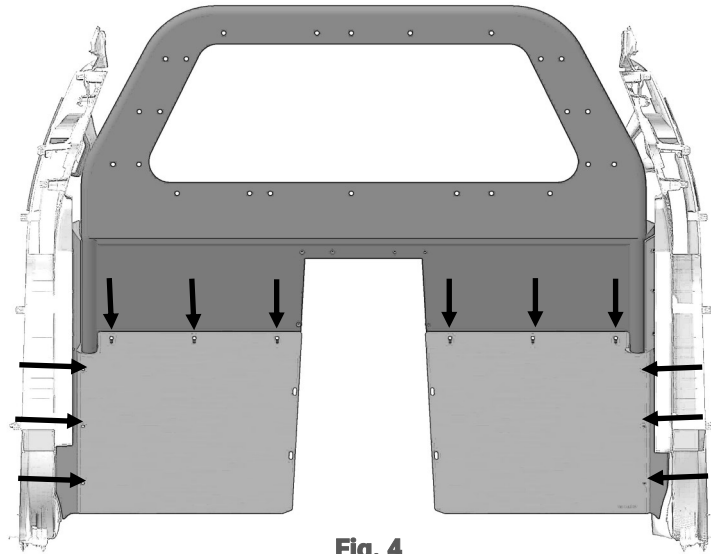

Fig. 4
- A. Place one of the Lower Extension Panels [3LEP812102] against the partition and slide the panel towards the outside and under the roll bar. Align the (3) holes at the top of the panel and the (3) holes along the outside of the panel with their respective holes in the partition and the mounting plate (Figure 4).
- B. Loosely install a carriage bolt [3X36] with whiz nut [3X16Z] into each of the (6) holes identified in the previous step. Install the fasteners such that the smooth head of the carriage bolt is facing towards the rear of the vehicle.
- C. Repeat on the driver side using (6) more carriage bolts [3X36], and (6) more whiz nuts [3X16Z].